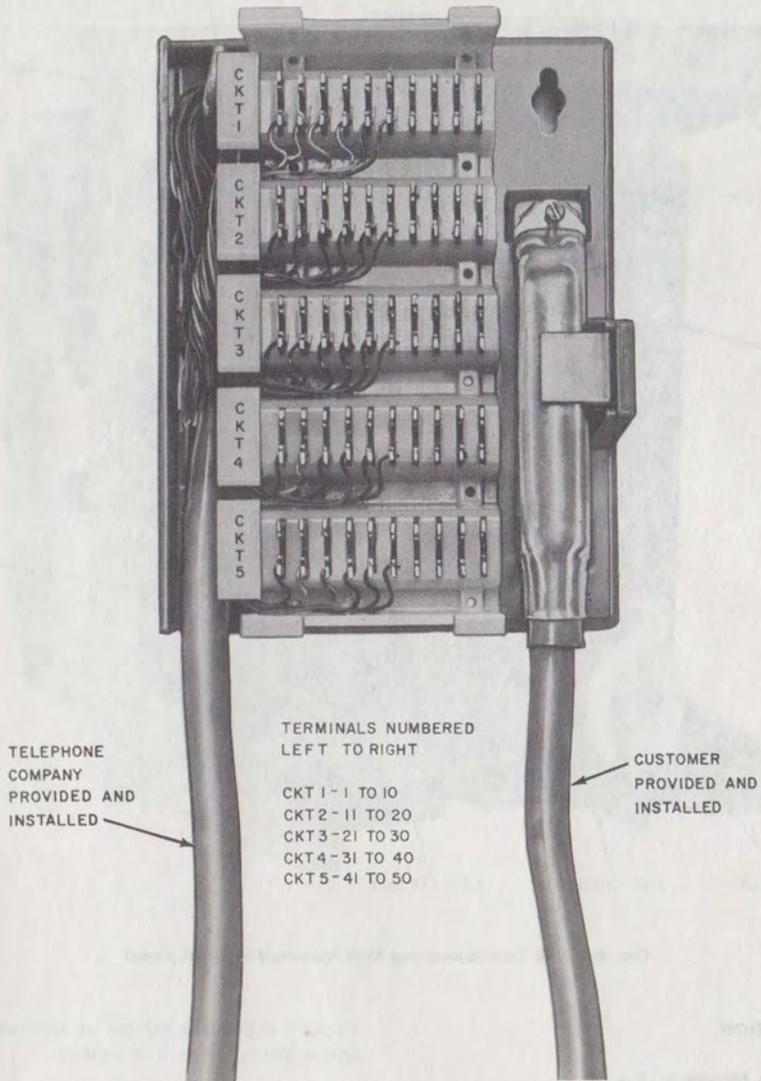

Fig. 3—66E3-25 Interface Connecting Block (Optional)
- Block, Connecting, 66E3-25 (optional, Fig. 3)
3.08 As a customer option, the 66E3-25 interface connecting block may be used and located not further than 200 feet from the equipment. The 66E3-25 block provides an Amphenol connector for up to five lines. The customer must terminate the CPE using an Amphenol No. 57-10500-7 plug, Cinch No. 223-32-50-023 plug, or equivalent. When using the 66E3-25 optional interface connecting block, refer to Fig. 3 and Table F for terminal and pin numbers.